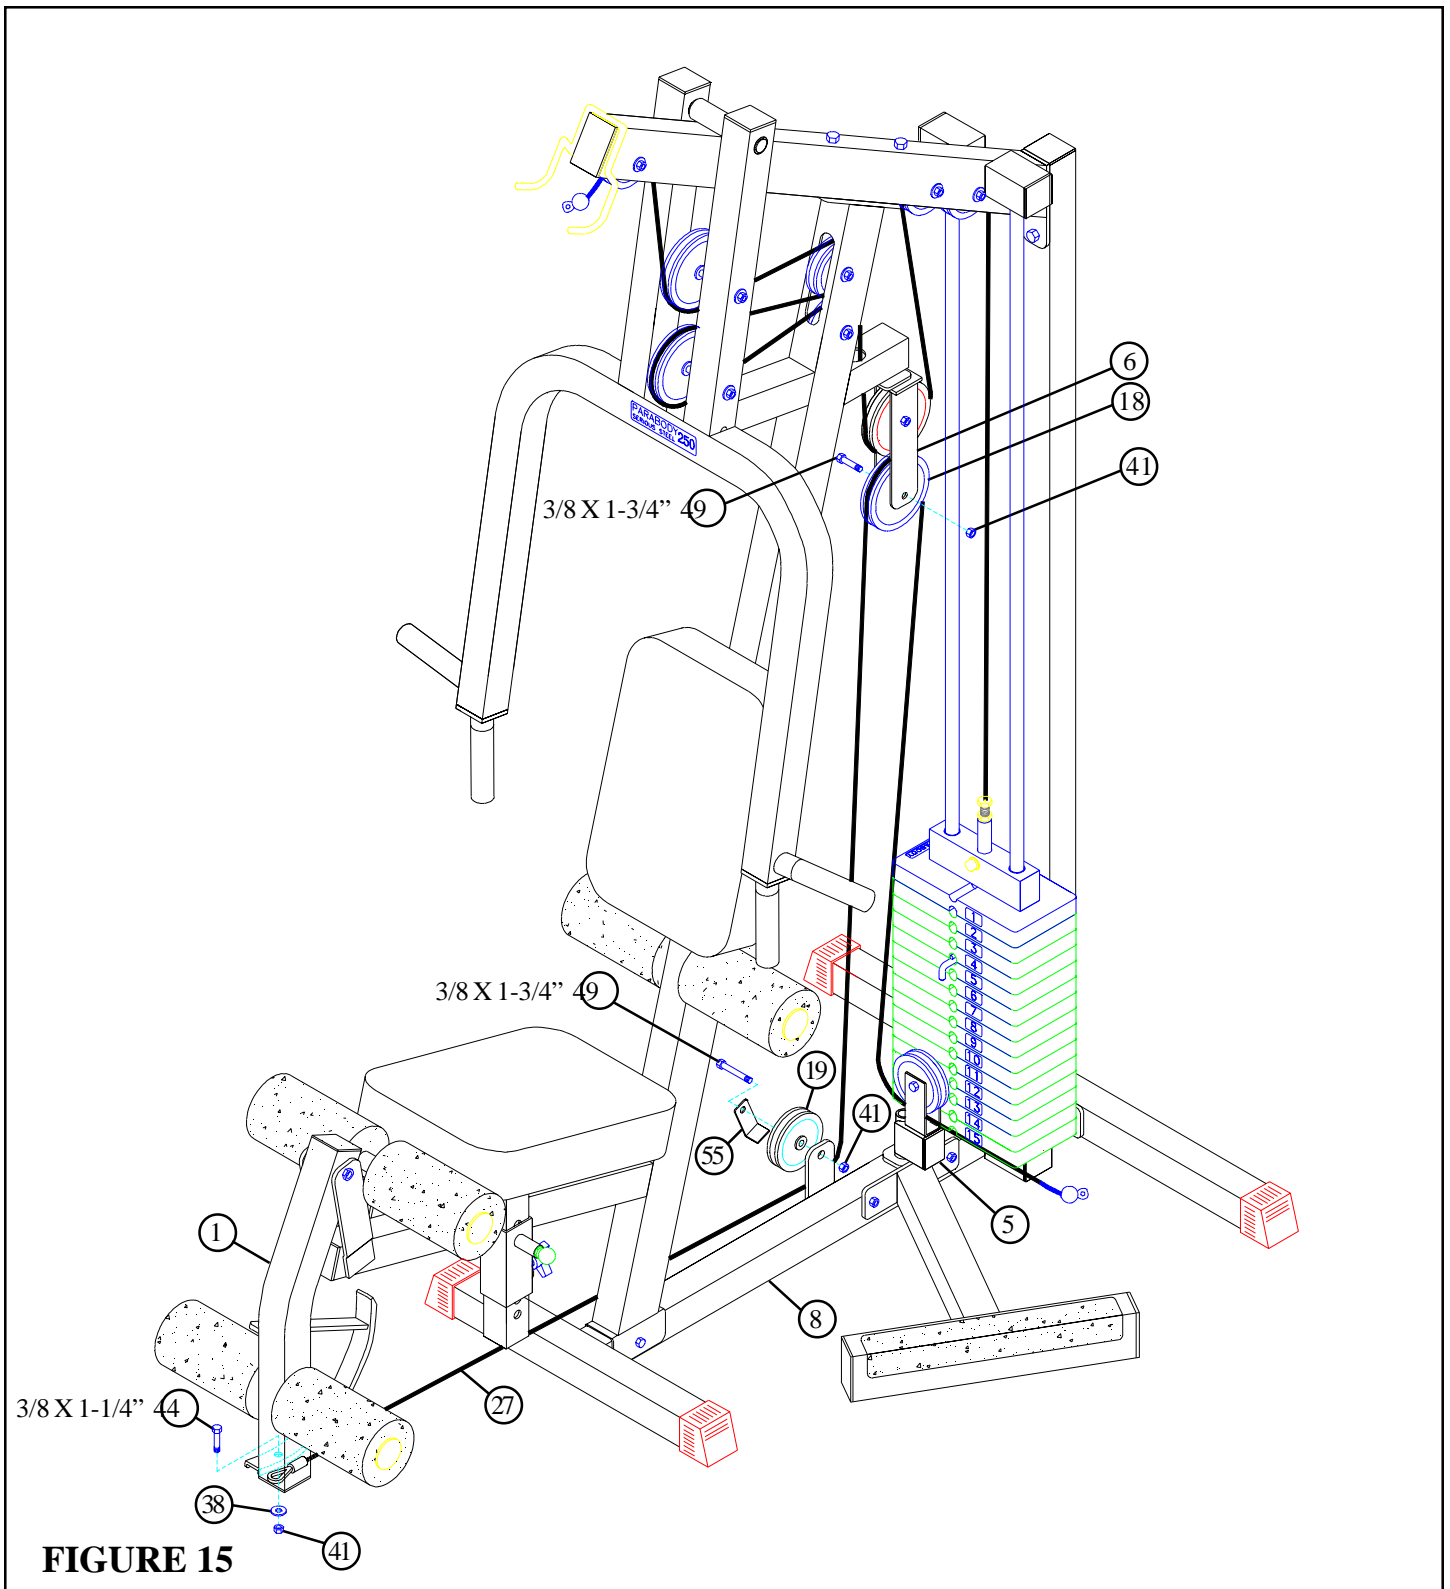

FIGURE 15
- Securely assemble one 4-1/2" PULLEY (18) to the FLOATING PULLEY BRACKET (6) using one 3/8 X 1-3/4" BOLT (49) and one 3/8" LOCK NUT (41) as shown in FIGURE 15.
- Securely assemble one 3-1/2" PULLEY (19) to the BASE (8) using one 3/8 X 1-3/4" BOLT (49), one "L" BRACKET (55), and one 3/8" LOCK NUT (41) as shown in FIGURE 15. (Note: The "L" BRACKET should be positioned at a 45 degree angle to function properly.)
- Route the "Loop" end of the LEG CURL CABLE (27) around the SWIVEL PULLEY BRACKET (5) and the previously installed pulleys and securely assemble it to the LEG CURL EXT (1) using one 3/8 X 1-1/4" BOLT (44), one 3/8" WASHER (38), and one 3/8" LOCK NUT (41) as shown in FIGURE 15.